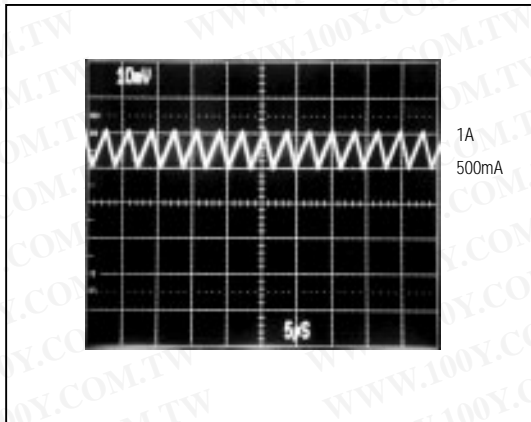

Figure 4a. CCM, Heavy Load Current Waveform (500mA/div)
The MAX761/MAX762 also limit the peak inductor current, allowing the devices to run in continuous-conduction mode (CCM) and maintain high efficiency with heavy loads (Figure 4a). This current-limiting feature is a key component of the control circuitry. Once turned on, the switch stays on until either (1) the maximum on-time one-shot turns it off ( $8\mu\text{s}$  later), or (2) the current limit is reached.
The coil's inductance need not satisfy this criterion exactly, as the circuit can tolerate a wide range of values. Larger inductance values tend to produce physically larger coils and increase the start-up time, but are otherwise acceptable. Smaller inductance values allow the coil current to ramp up to higher levels before the switch can turn off, producing higher ripple at light loads. In general, an  $18\mu\text{H}$  inductor is sufficient for most applications ( $V_{\text{IN}} \leq 5\text{V}$ ). An  $18\mu\text{H}$  inductor is appropriate for input voltages up to  $3.6\text{V}$ , as calculated above. However, the same  $18\mu\text{H}$  coil can be used with input voltages up to  $5\text{V}$  with only small increases in peak current, as shown in Figures 4a and 4b.